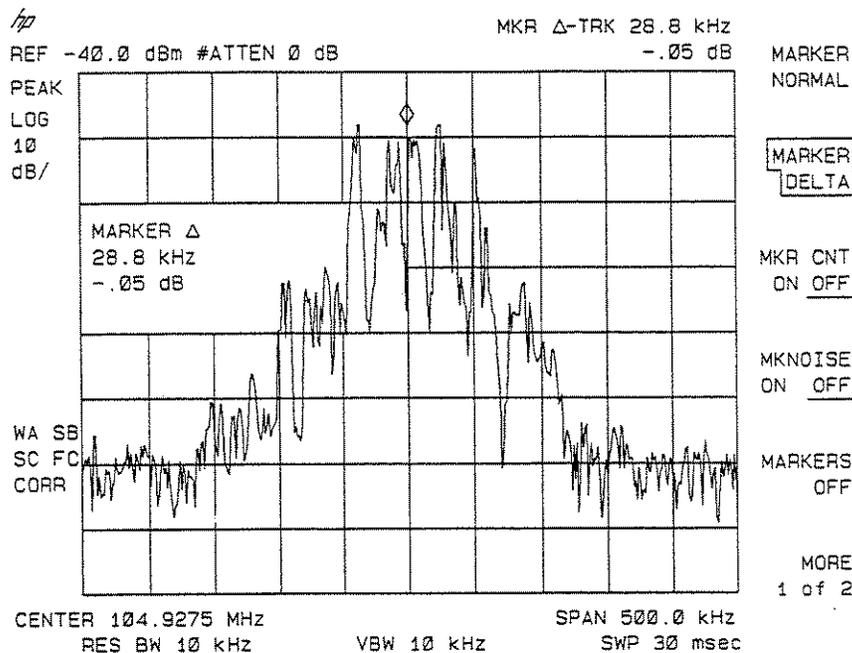

Figure 2-9. Using Signal Tracking to Track an Unstable Signal
5. The signal frequency drift can be read from the screen if both the signal track and marker delta functions are active. Press **MARKER**, **MARKER DELTA**, **SIGNAL TRACK**; the marker readout indicates the change in frequency and amplitude as the signal drifts. (See Figure 2-9.)